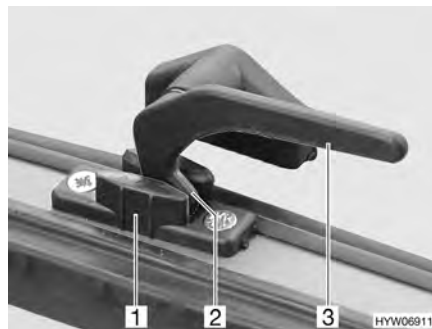

Fig. 57 Catch lever in the "continuous ventilation" position
- "Continuous ventilation" (Fig. 57)
- Turn the catch lever (Fig. 57,3) a quarter turn towards the centre of the window.
- Turn the catch lever a quarter turn towards the window frame. The locking catch (Fig. 57,2) has to be moved into the recess of window catch (Fig. 57,1).